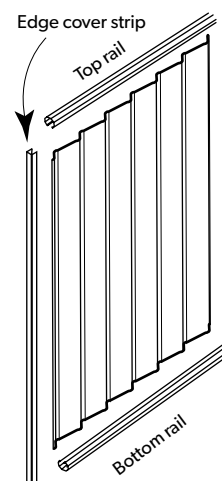

FIGURE 20.5:
5. If required, trim the lattice to fit the width of your gate. Equally trim both ends to retain a balanced effect (Figure 20.6). Notch the top leg of the lattice/slats on both ends (Figure 20.5).